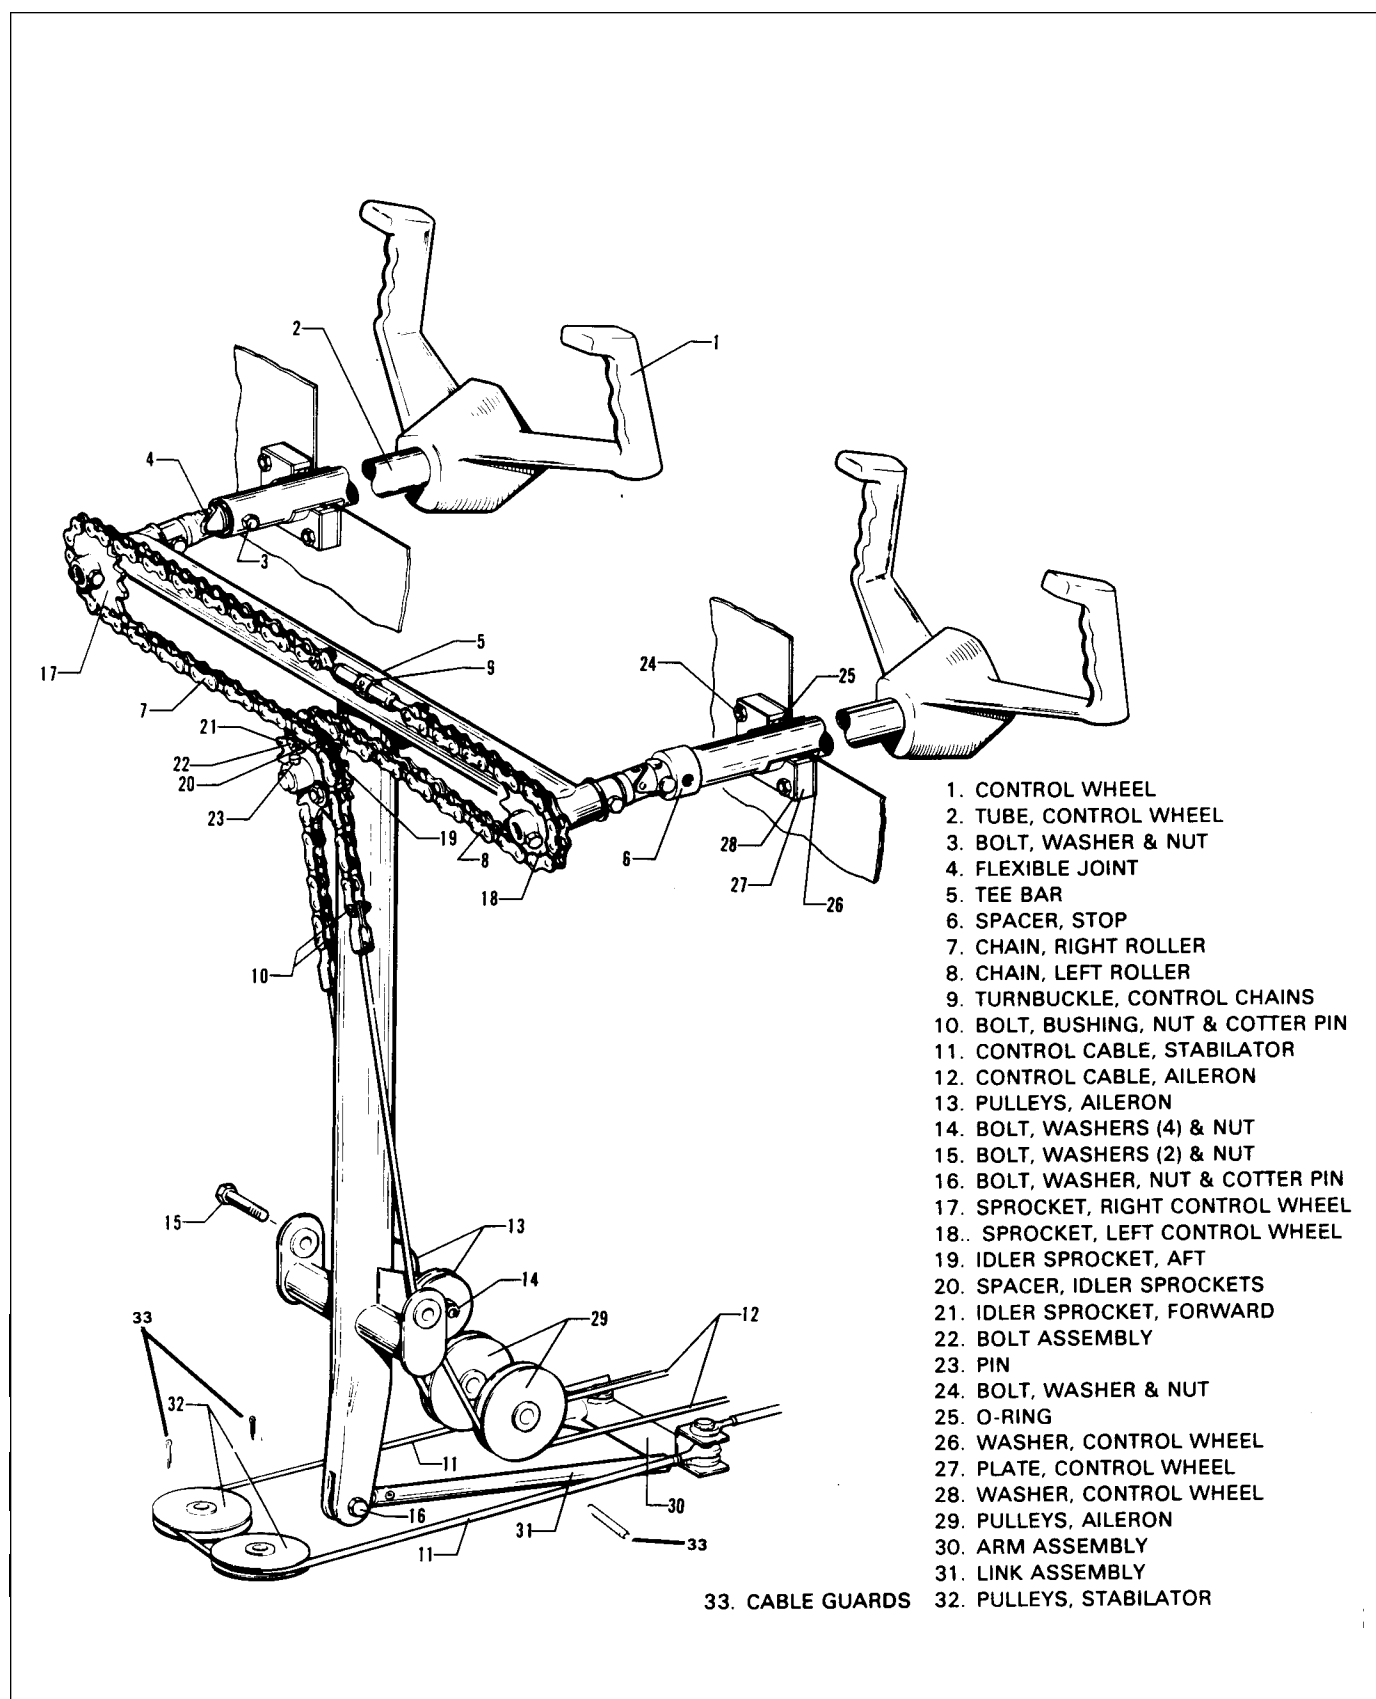

Figure 5-1. Control Column Assembly
**5-5. REMOVAL OF CONTROL COLUMN ASSEMBLY. (Refer to Figure 5-1.)**
- a. To remove either control wheel (1) with tube (2), the following procedure may be used:
- 1. Separate the control wheel tube (2) from the flexible joint (4) that is located on either side of the tee bar assembly (5) by removing the nut, washer and bolt (3). Pull the tube from the flexible joint.
- 2. If removing the left control tube, slide the stop (6) from the tube.
- b. The tee bar (5) with assembled parts may be removed from the airplane by the following procedure:
- 2. Relieve cable tension from the stabilator control cables (11) at one of the stabilator cable turnbuckles in the aft section of the fuselage.
- 3. Relieve tension from the aileron control cables (12) and chains (7 and 8) and at the turnbuckle (9) that connects the chains at the top of the tee bar (5).
- 4. Disconnect the control chains from the control cables where the chains and cables join by removing the cotter pins, nuts, bolts and bushings (10).
- 6. Remove the two aileron control cable pulleys (13) attached to the lower section of the tee bar by removing the pulley attaching bolt (14).
- 7. Disconnect the stabilator controls (31) by removing the nut, bolt, washers and cotter pin (16) from the end of the tee bar assembly.
- 9. Remove the tee bar assembly by removing the attaching bolts (15) with washers and nuts, which are through each side of the floor tunnel, and lifting it up and out through the right side of the cabin.
**5-6. INSTALLATION OF CONTROL COLUMN ASSEMBLY. (Refer to Figure 5-1.)**
1. Swing the tee bar assembly into place from the right side of the cabin and secure with attaching bolts (15), washers and nuts inserted in through each side of the floor tunnel.
2. Place link assembly end (31) into the lower end of the tee bar assembly (5) and secure with bolts, washer, nut and cotter pin (16).
3. Place the aileron control cables (12) around the pulleys (13) that attach to the lower section of the tee bar (5), position pulleys and secure with bolt, washers and nut (14).
5. Place the control wheels in neutral (centered) position and install the aileron control chains (7 and 8) on the control wheel sprockets (17 and 18) and idler cross-over sprockets (19 and 21). This turnbuckle (9) must be centered between the two control wheel sprockets.
6. Loosen the connecting bolts (22) of the idler sprockets (19 and 21) to allow the chain to fit snug around the control wheel sprockets and over the idler sprockets.
7. Connect the aileron control cables (12) to the ends of the chains (7 and 8) with bolts, bushings, nuts and cotter pins (10).
8. Adjust the chain turnbuckle (9) between the two control wheel sprockets to allow the control wheels to be neutral and obtain proper cable tension as given in Table V-I. It may be necessary, in order to have both control wheels neutral, to set the chain turnbuckle to neutralize the wheels and then set cable tension with the turnbuckles located under the floor panel aft of the main spar as instructed in Paragraph 5-12. Before safetying the turnbuckle, check that when the ailerons are neutral, the control wheels will be neutral and the chain turnbuckle centered. Also, the aileron bellcranks should contact their stops before the control wheel hits its stop. Maintain .030 to .040 clearance between sprocket pin and adjustable stop bolts on tee bar.